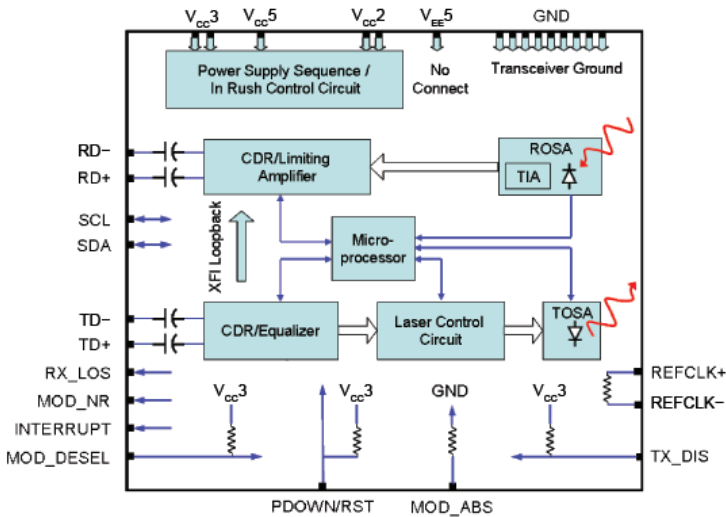

Figure 1. Functional block diagram
The JDSU tunable XFP optical transceiver is a full-duplex serial electric, serial optical device with both transmit and receive functions contained in a single module that provides a high-speed serial link at 9.95 to 11.35 Gbps signaling rates. It complies with the ITU-T G.698.1 DN50S-2D2(C) standard with 50 GHz ITU grid channel spacing for 80 km reach (SONET or SDH), IEEE 10GBase-ZR and 10GBase-ZW DWDM for 80 km reach (Ethernet), and 10GFC DWDM for 80 km reach (Fibre Channel) applications. The transceiver also fully complies with the 10 Gigabit small form factor XFP pluggable module multisource agreement INF8077i Rev. 4.5. A block diagram of the transceiver is shown in Figure 1.